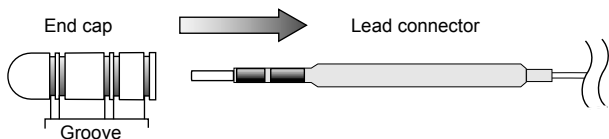

Figure 5. Insert end cap over lead.
1. Insert the end cap securely over the lead connector pin (Figure 5). Only sterile water may be used to facilitate this application; no adhesives are necessary.